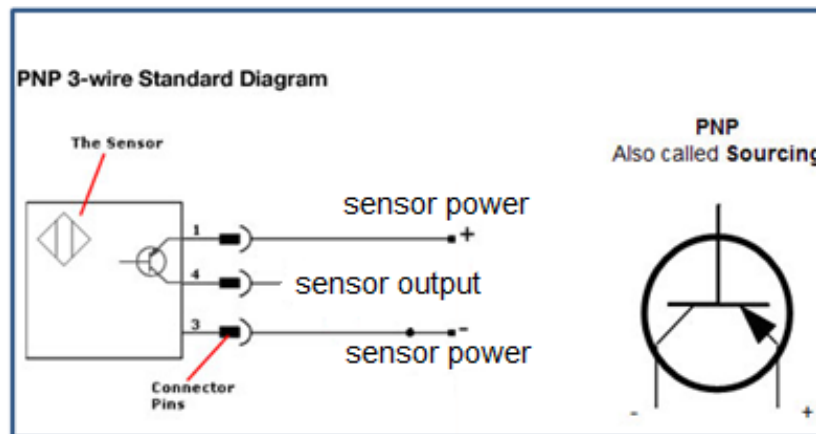

Figure 6: Sourcing-Output (PNP) Switch
- Sourcing-output (PNP) sensors Figure 6